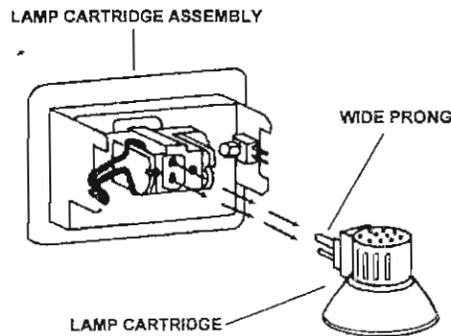

Figure 3-7. Removing the lamp cartridge.
- (6) Grasp the circular vented housing of the lamp cartridge and pull it outward to remove it from the assembly as illustrated in figure 3-7. Discard the lamp cartridge.